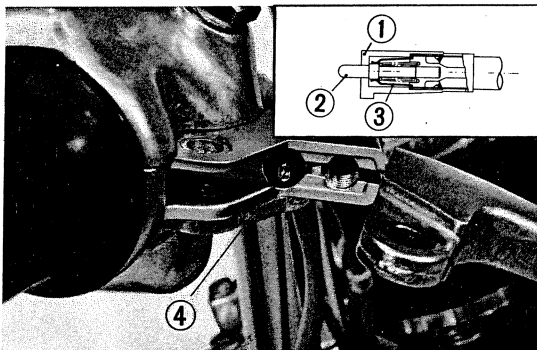

Fig. 165 ① Switch case ② Shaft ③ Contact plate
2) Front stoplight switch (Fig. 165)